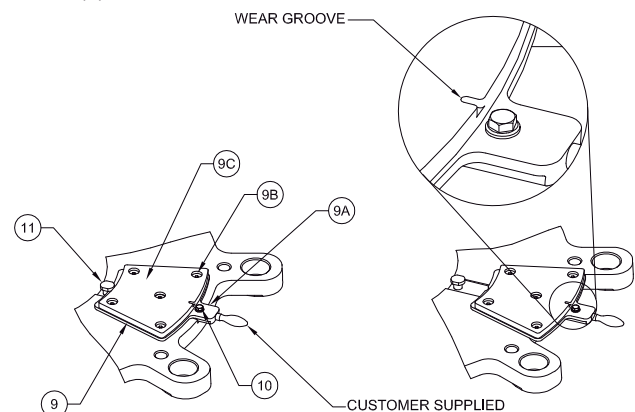

Figure 9
Note: Friction lining (9C) replacement is required when worn to the bottom of the wear groove on the friction lining (See Figure 9) or if oil or grease has contaminated the surface of the friction lining. Airflex FHB brakes are supplied with a detachable friction lining which can be replaced without having to fully dis-assemble the brake. Friction linings should be replaced as a complete set (all linings replaced at one time) to ensure proper brake operation. Friction linings must be replaced when replacing the disc (4).
4.3.5.1 If only the friction linings (9C) need to be replaced, remove the flat head screws (9B) that secure the friction lining (9C) onto the backing plate (9A). Remove the friction lining from the backing plate and discard the friction lining and flat head screws. Refer to Figure 9.